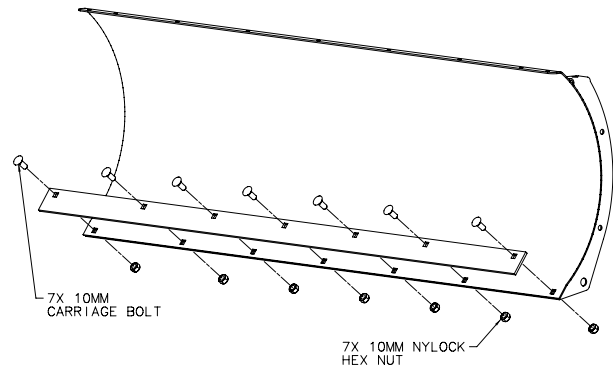

Figure 2 Assemble Wear Bar to Blade
3. Attach the wear bar to the plow blade as shown in Figure 2. Place 10mm dia carriage bolts through each of the square holes in the wear bar, and through their respective holes on the blade. Terminate with a 10mm dia lock nut. Secure nut with 17mm socket and torque wrench.